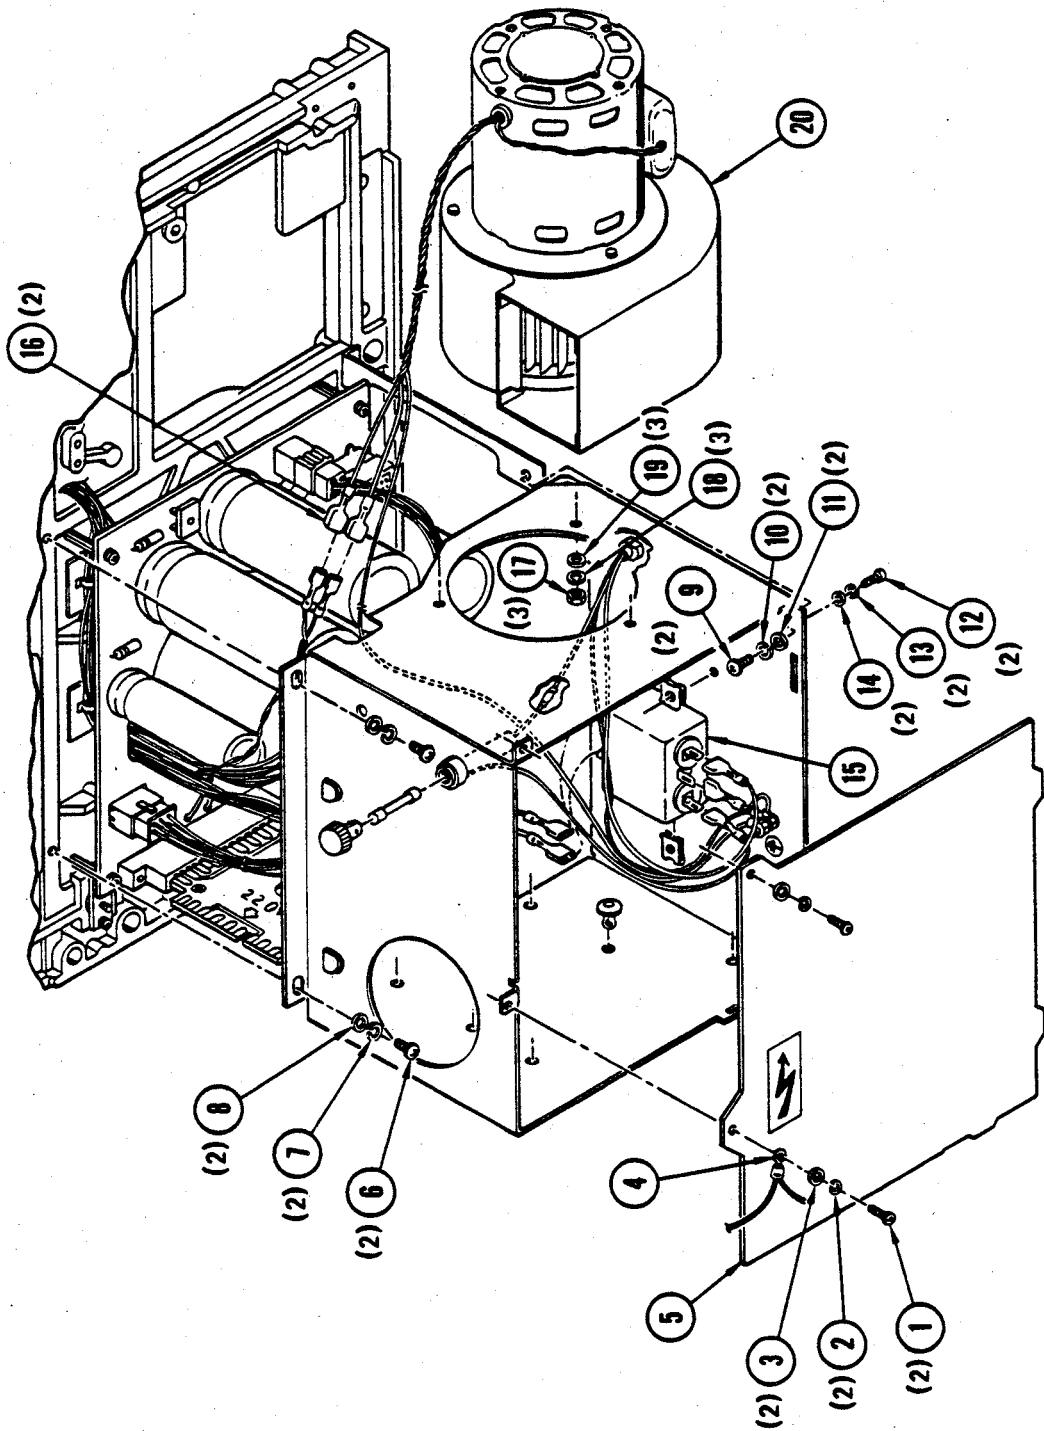

Figure 4-24. Power Supply Assembly
4-38. Removal and Replacement (Figure 4-24). Place the drive in service access position in accordance with instructions in paragraph 4-3 and proceed as follows:
- c. Remove screw (1, Figure 4-24), lockwasher (2), and flatwashers (3) securing ground wire terminal (4), and power supply cover (5).
- e. Remove screws (6), lockwashers (7), and flatwashers (8) securing power supply chassis to top plate.
- f. Remove screws (9), lockwashers (10), and flatwashers (11) securing chassis to rear bracket.
- g. Disconnect air pump wires (16) and terminals from EMI filter (15) noting position from which removed.
- h. If air pump assembly (20) is to be replaced, remove nuts (17), lockwashers (18), and flatwashers (19) securing air pump to chassis.